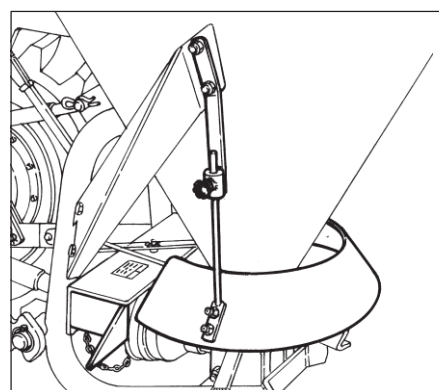

Fig.14
- Deflector for salt/sand (Fig.14)